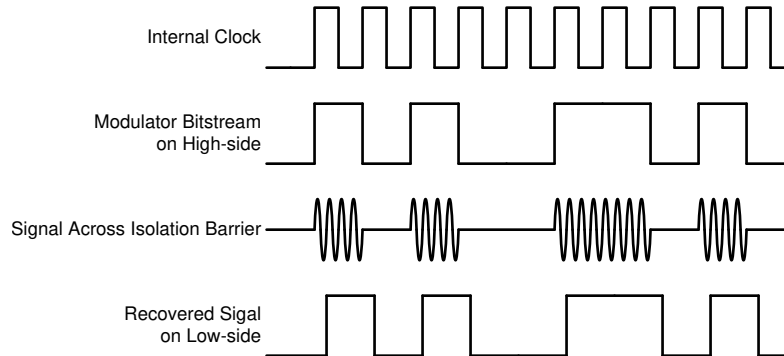

图 7-1. OOK-Based Modulation Scheme
The AMC1300B-Q1 uses an on-off keying (OOK) modulation scheme, as shown in 图 7-1, to transmit the modulator output bitstream across the SiO₂-based isolation barrier. The transmit driver (TX) shown in the Functional Block Diagram transmits an internally-generated, high-frequency carrier across the isolation barrier to represent a digital *one* and does not send a signal to represent a digital *zero*. The nominal frequency of the carrier used inside the AMC1300B-Q1 is 480 MHz.